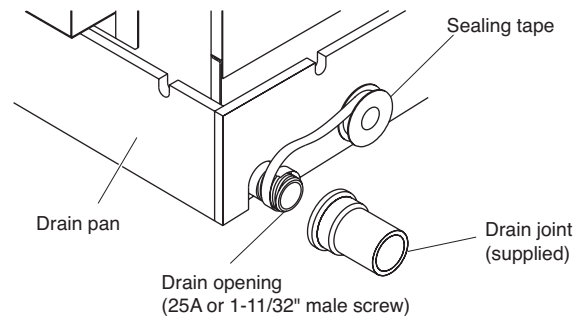
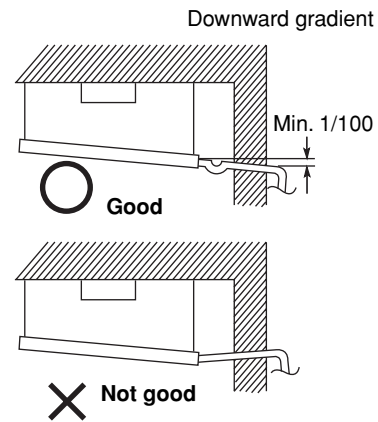

Fig. 3-83
Fig. 3-84
- (1) Prepare standard hard PVC pipe (O.D. 1-1/4") for the drain and use the supplied drain socket to prevent water leaks. The PVC pipe must be purchased separately. When doing this, apply adhesive for the PVC pipe at the connection point.
- (2) If connecting a drain joint (supplied) to the threaded drain port, first wrap the drain port threads with sealing tape, then connect the joint. (Fig. 3-83)
- (3) After connecting the drain pipe securely, wrap insulator (field supply) around the pipe.
- (4) Ensure the drain pipe has a downward gradient (1/100 or more) and prepare traps as indicated in Fig. 3-84.